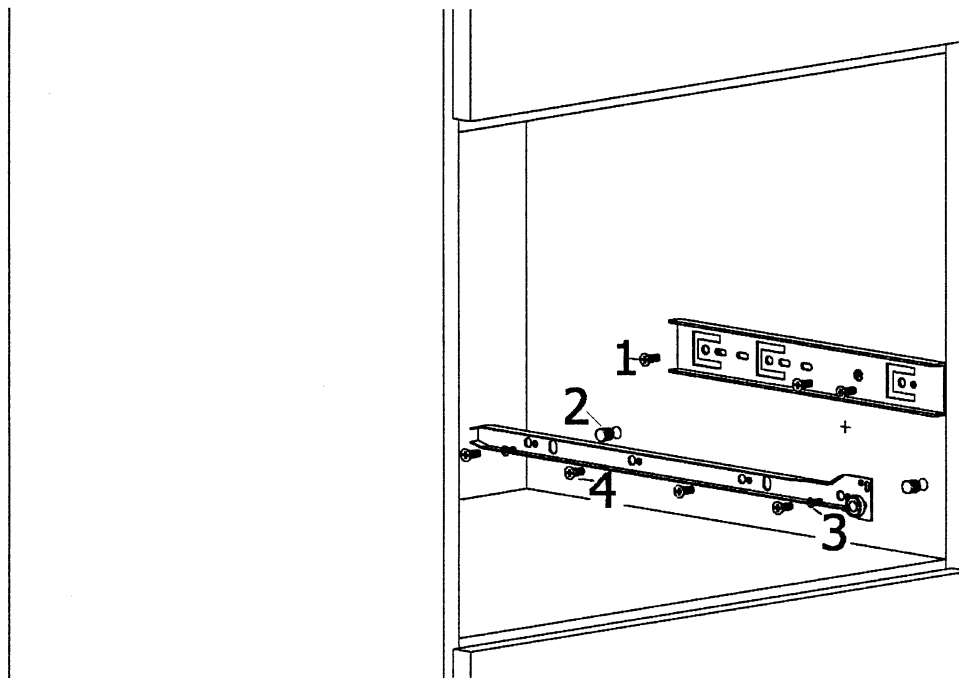

Fig. 2
Assemble the slide of the machine fixing it with 3 self-threading screws Ø 3.5x15 (1) of the equipment. Assemble the slide of the machine using the two plugs (2) and the two screws M4 (3) of the equipment; once inserted the slide in the column, complete the assembling operations tightening the 4 self-threading screws Ø 3.5x15 (4) of the equipment, as shown in fig. 2.